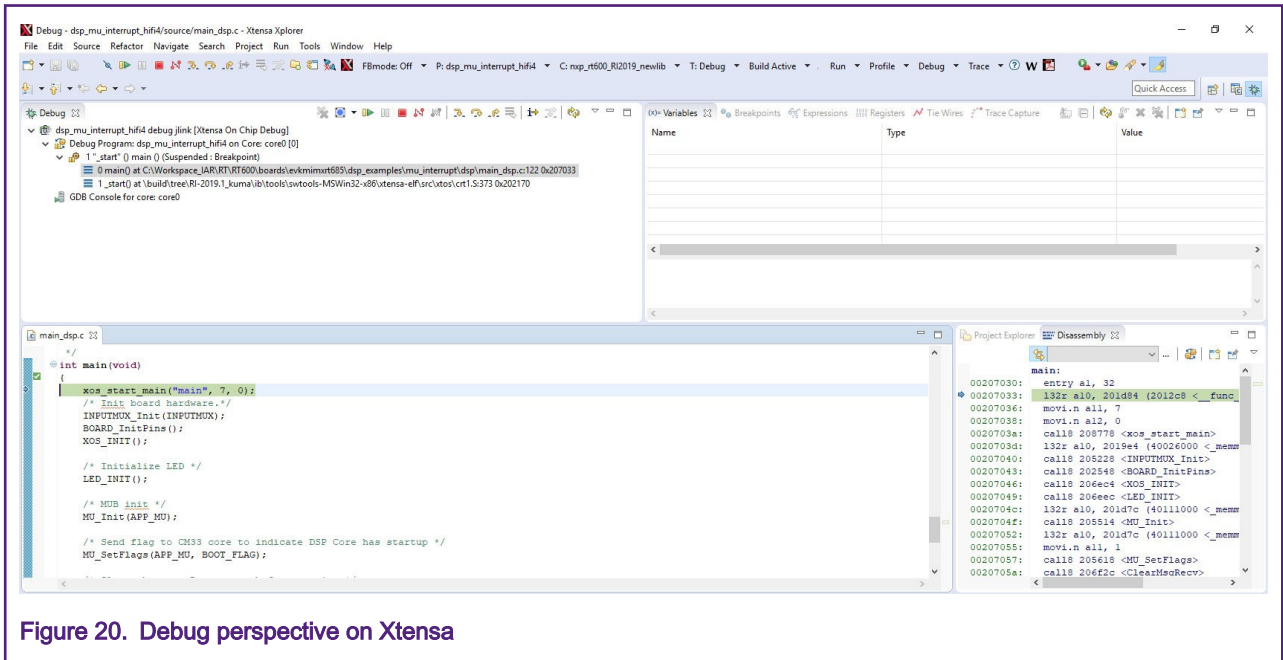

Figure 20. Debug perspective on Xtensa
- Once the Debug button is selected, the actual debug on-chip will be started. Xplorer will ask you if you would like to download binaries to the hardware. Select **Yes**. Xplorer IDE will transit to the debug perspective after the binary download is finished. The debug perspective is as shown in Figure 20.